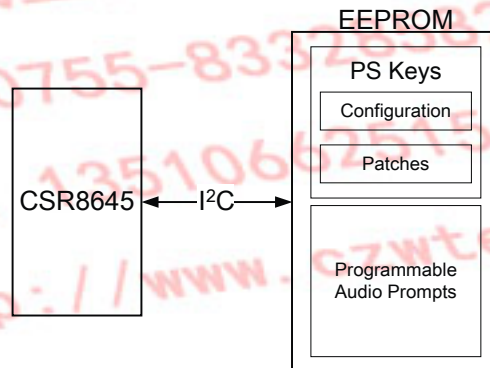

Figure 17.2: Programmable Audio Prompts in External I²C EEPROM
- An external EEPROM, in this implementation the prompts are stored in the same EEPROM as the PS Keys, see Figure 17.2. A larger EEPROM is necessary for programmable audio prompts. This implementation supports EEPROMs up to 512Kb. An EEPROM of 512Kb enables approximately 15 seconds of audio storage.